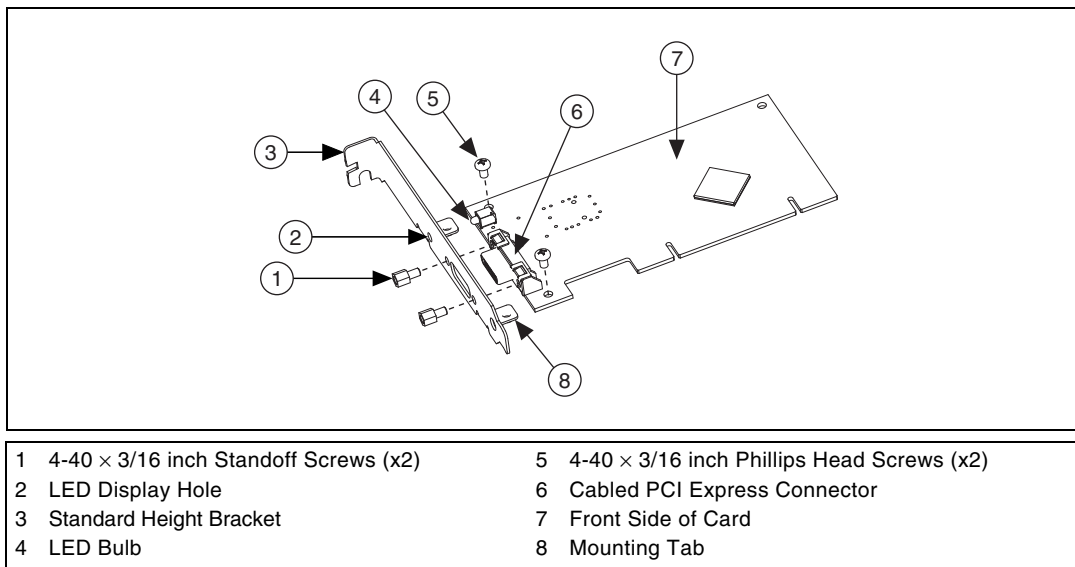

Figure 3-2. Removing the Standard Height Bracket from an NI PCI-8361
1. Remove the standard height front bracket already installed on your NI PCI-8361 or NI PCIe-8361 card by removing the two 4-40 × 3/16 inch Phillips head screws and the two 4-40 × 3/16 inch standoff screws that attach the bracket to the card, as shown in Figure 3-2. Set the screws aside to re-use when installing the low-profile bracket.